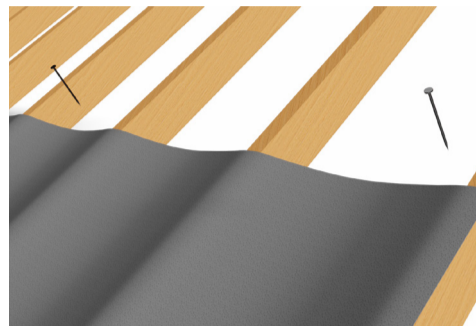

fig 2: Drape and nailing
3. Where unsupported, the Danelaw LR120TT should be installed with a drape over timber rafters or counter battens of not less than 10mm and not greater than 15mm. It should be temporarily secured with the minimum number of clout nails above the upper overlap line at maximum 1200mm horizontal centres (fig. 2). Minimise any gaps in the horizontal laps resulting from different tautness in the underlay courses. This is important to facilitate the effective sealing of the horizontal overlap using the integral tapes. The tile or slate battens should be installed at the appropriate gauge and fixed to provide the main anchorage point for the underlay.